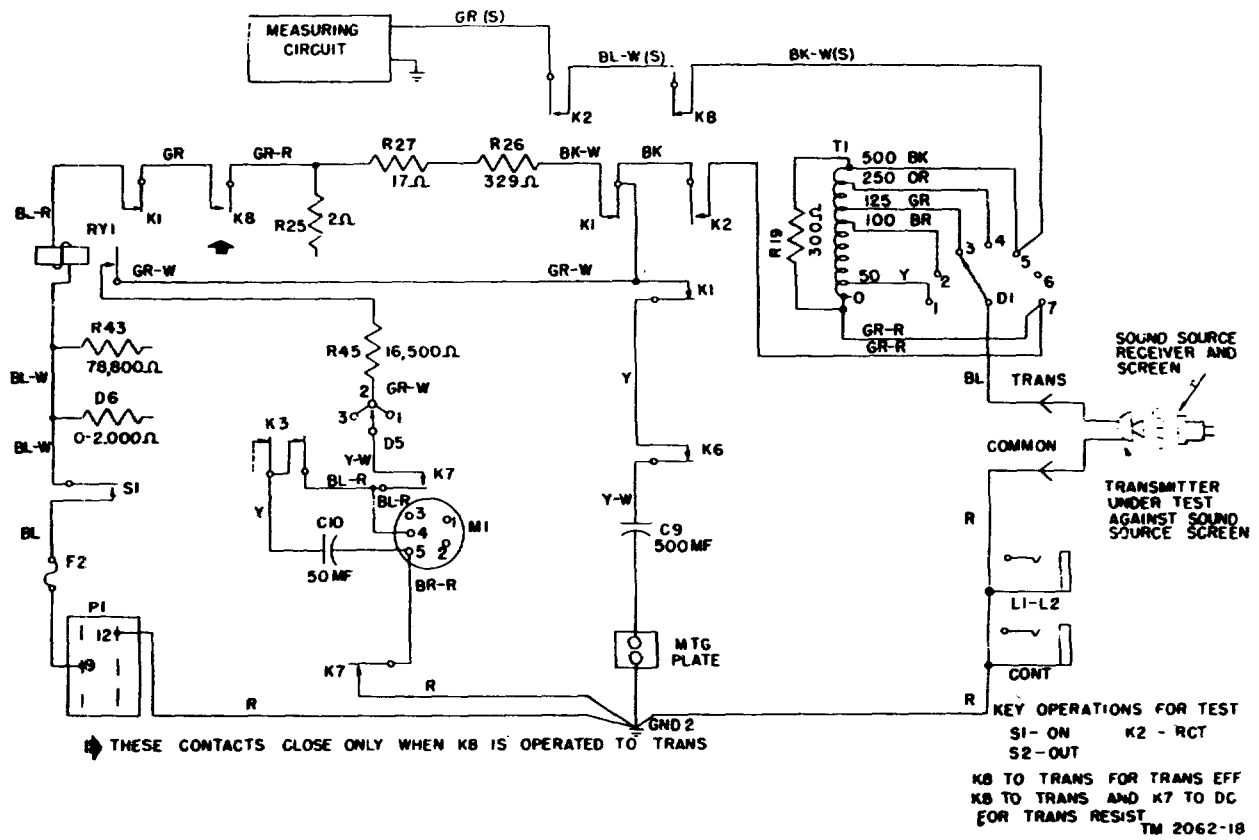

Figure 39. Test Set I-142, carbon-type microphone test circuit (24-volt, 361-ohm supply), schematic diagram.
c. **CARBON-TYPE MICROPHONES.** (1) *24-volt, 361-ohm test circuit* (figs. 39 and 40). (a) No output (failure of the meter indicator to deflect) in the efficiency test of carbon-type microphones (par. 26) may be due to defect in either the measuring circuit or the equalizer circuit to the key contacts, the associated wiring or relay RY1 being open-circuited, to resistor R19 or transformer T1 being open-or short-circuited